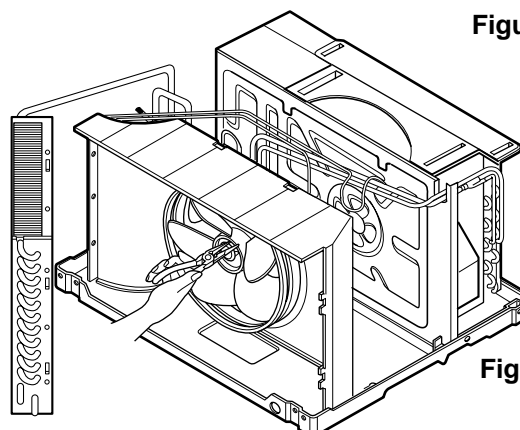

Figure 20
6. Remove the fan. (See Figure 20)